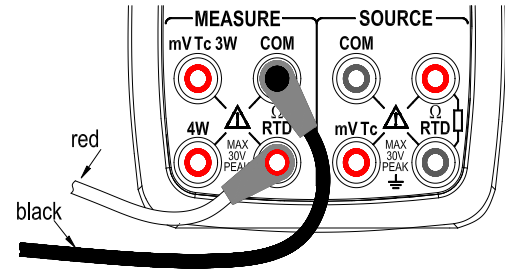

Figure 9 Measuring continuity ,ohm/RTD signal with 2w method
Two wire connection method for continuity, ohm/RTD signal (Figure 9)
Step 3: Connect the lead cables for measurement to the measuring terminals of the measuring instrument under test as shown in Figure 9, Figure 10 or Figure 11.
8.4 Measuring Temperature with Thermocouple (TC)
under test as shown in Figure 9, Figure 10 or Figure 11.
Connecting the devices as shown in Figure 9,the beeper sounds continuously if the loop circuit resistance under measurement is less than 50Ω,and LCD shows the present measured resistance value.